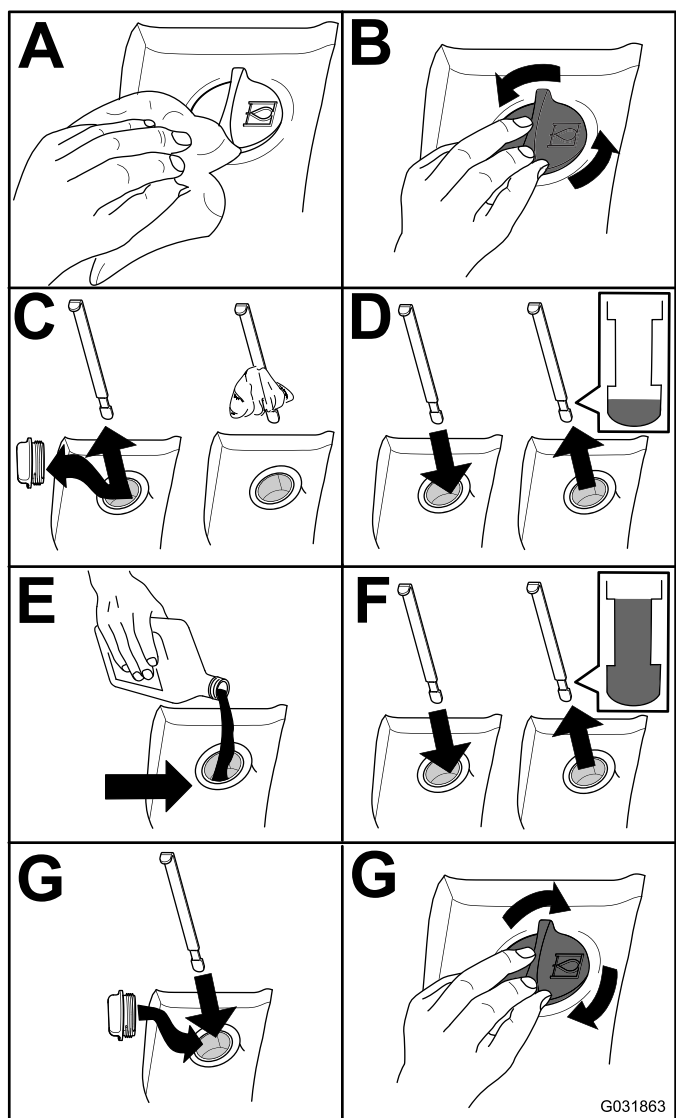

Figure 99
2. Check the hydraulic-fluid level (Figure 99).